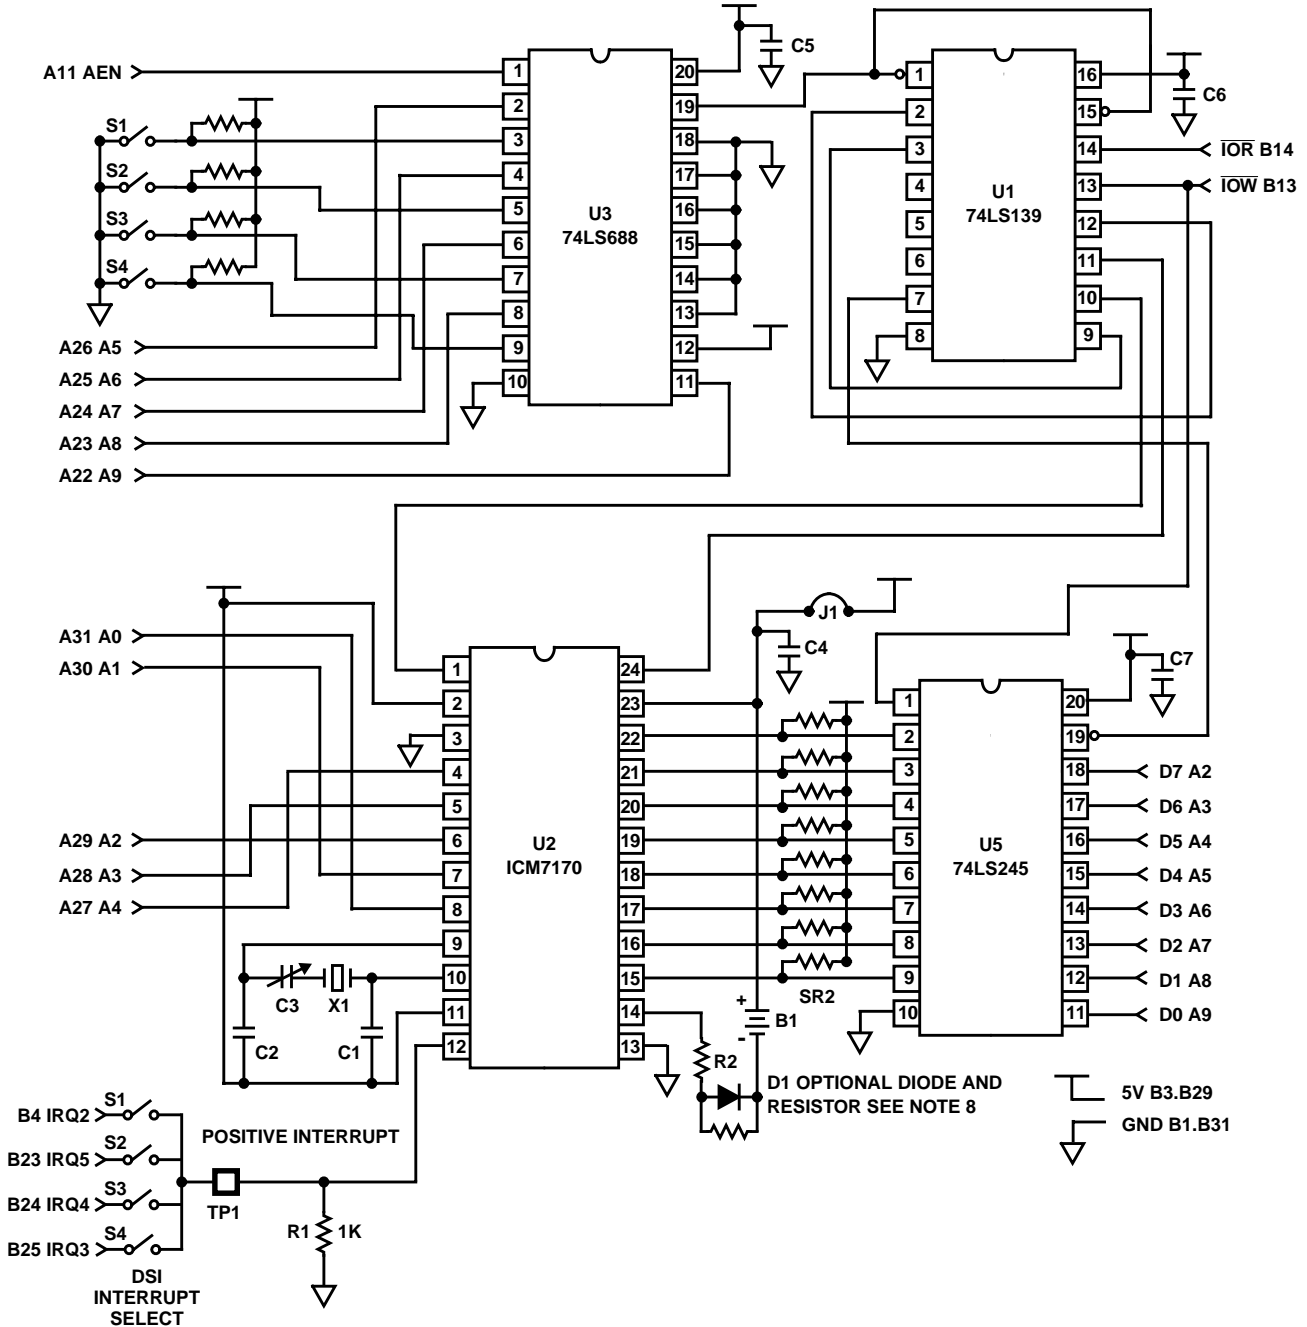

FIGURE 9. IBM PC INTERFACE FOR ICM7170Y
Figure 9 shows the schematic of a board that has been designed to plug into an IBM PC/XT (Note 1) or compatible computer. In this example \overline{CS} is permanently tied low and access to the chip is controlled by the \overline{RD} and \overline{WR} pins. These signals are generated by U1, which gates the IBM's \overline{IOR} and \overline{IOW} with a device select signal from U3, which is
8. V_{BACKUP} DIODE - Lithium batteries may explode if charged or if discharged at too high a rate. These conditions could occur if the battery was installed backwards or in the case of a gross component failure. A 1N914-type diode placed in series with the battery as shown in Figure 9 will prevent this from occurring. A resistor of $2M\Omega$ or so should parallel the diode to keep the V_{BACKUP} terminal from drifting toward the V_{SS} terminal and shutting off ICM7170 I/O during normal operation.